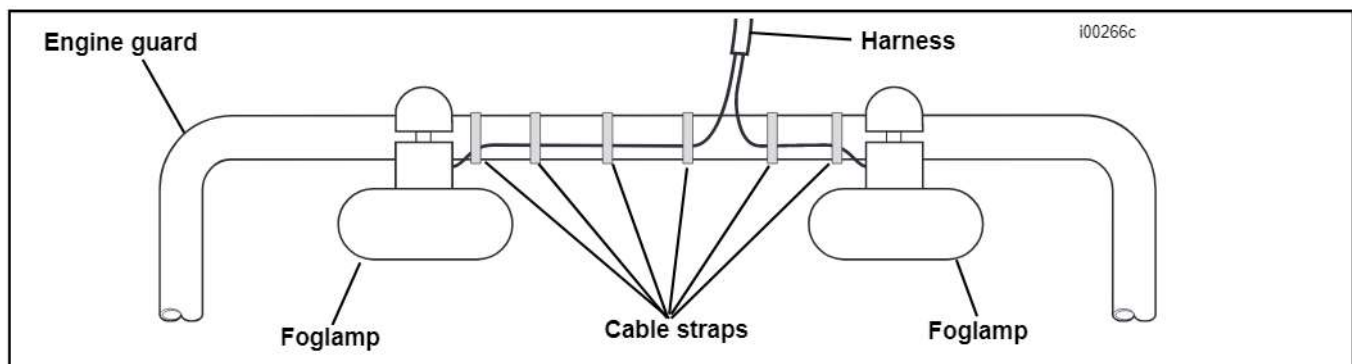

Figure 10. Foglamp Mounting (Rear View)
1. See Figure 10. Install the fog lamps on the engine guards as shown, but do not tighten at this time.